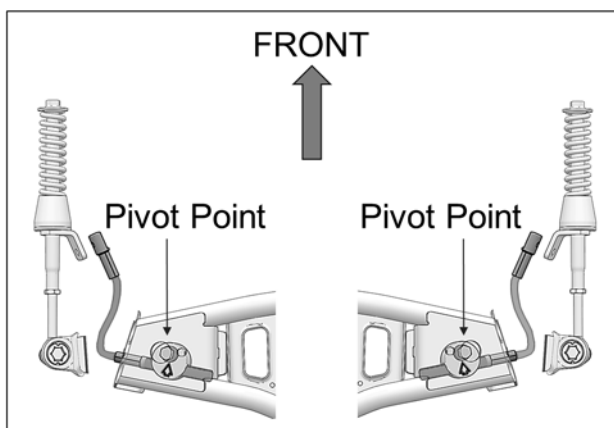

Fig. 28
18. Make sure aluminum disk pivot point is installed in front of steering limiter cable. See Fig. 28